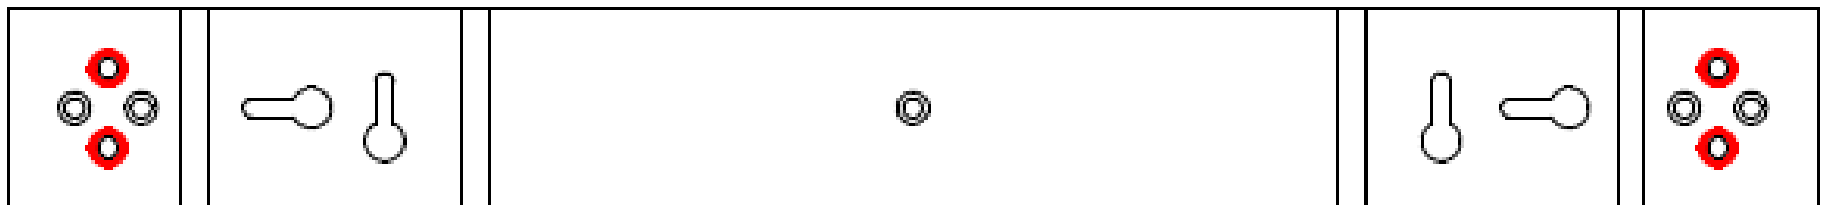

Figure 3
- Find the center of the two studs and mount the provided bracket using the provided screws. Place screws in the holes highlighted in red in figure 3.